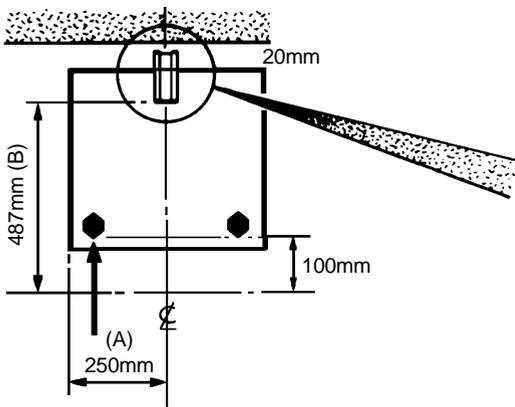
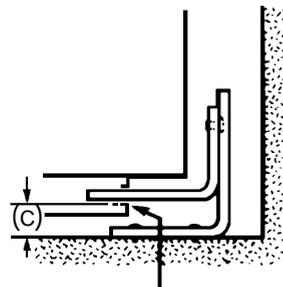

Fig.3a
Fig.3b
2. Mark off 250mm from the left hand side of the appliance as shown in dimension 'A', Fig 3a. This is the centre line of the fixing bracket.
3. Draw a line 100mm from the front edge of the levelling feet (see Fig 3a) and remove appliance from its position. Mark off dimension 'B' (see Fig 3a) back from this line on the centre line of the bracket to locate the front edge of the lower bracket. Fix lower bracket (with two fixing holes) to the floor then measure the height from floor level to engagement edge on back of appliance, dimension 'C' of Fig. 3b.
4. Assemble upper bracket to lower bracket so that underside of bracket is dimension 'C' +3mm above floor level. (see Fig. 3b).
- Reposition appliance and check that top bracket engages into appliance back as shown in Fig. 3b.